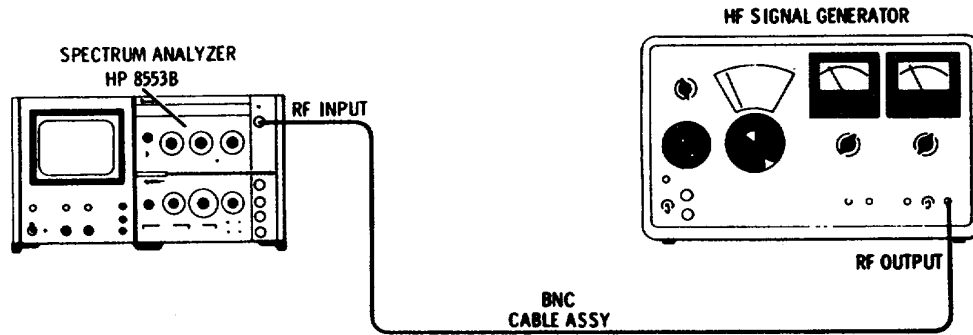

Figure 4-14. Noise Sideband Test
1. Connect the test setup in Figure 4-14 and make the following control settings: